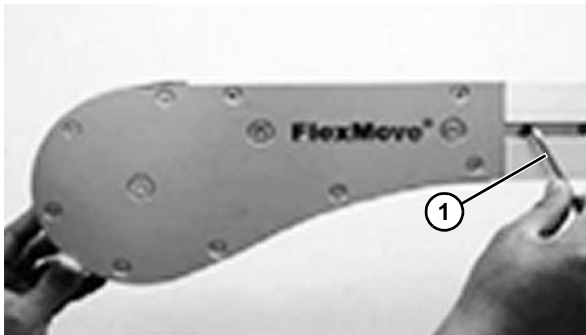

Figure 28
2. Tighten the set screws using a hex key (Figure 28, item 1).